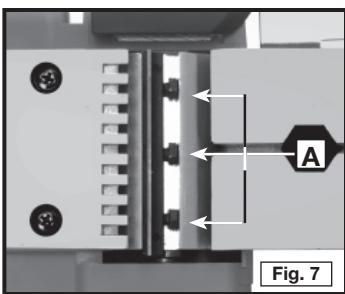

Fig. 7
To make rabbet cuts, adjust the blades so that the right end of both blades is even with the right side of the front shoe. Slightly loosen the clamp screws (A) Fig. 7, and use a wood block to slide and align the blade (in pressure bar assembly). Tighten the clamp screws securely. Repeat for a second blade.